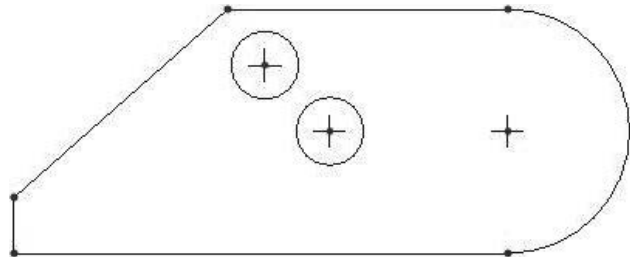

Figure 3-21 Delete Lines
- Step 7:** Use  to erase the line on the right end of the original figure and the left half of the circle. See Figure 3-21.